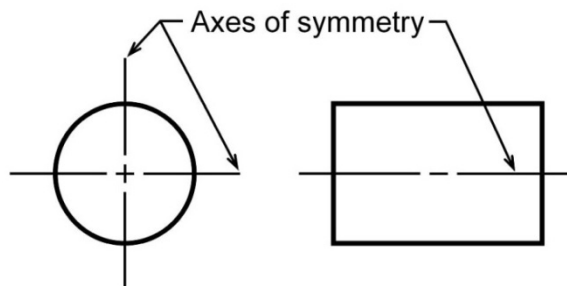
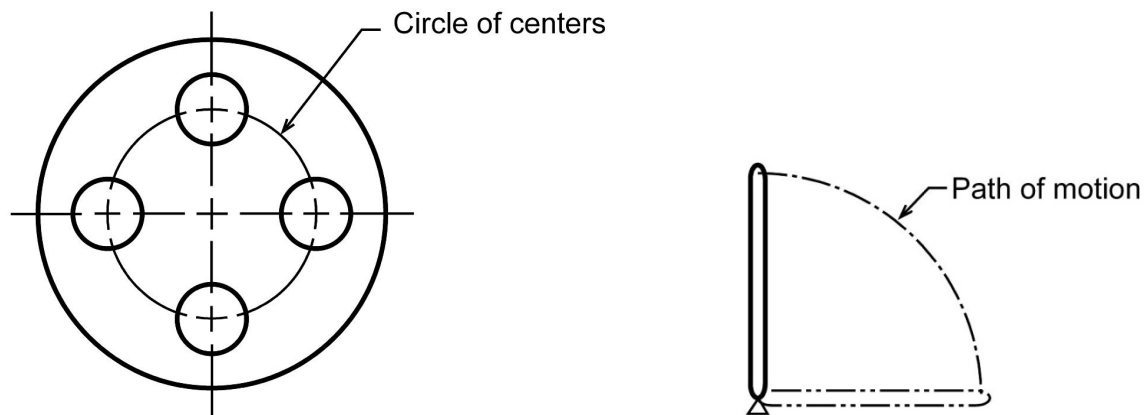

Figure 2-7: Axes of symmetry
Figure 2-8: Center line uses
Center lines represent axes of symmetry and are important for interpreting cylindrical shapes (Figure 2-7). They are also used to indicate circle of centers and paths of motion as shown in Figure 2-8.
- Rule 1. Center lines should start and end with long dashes (see Figure 2-8).
Phantom lines are used to indicate alternate positions of moving parts (see Figure 2-8). They may also be used to indicate adjacent positions of related parts and repeated detail as shown in Figures 2-12 and 2-13. They are also used to show fillets and rounds in the view that does not show the radius. In this case, the phantom lines are used to show a change in surface direction (see Figure 2-14).